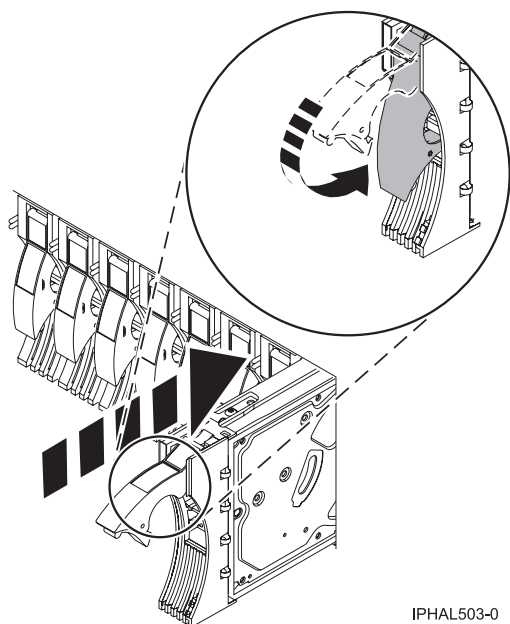

Figure 77. Installing a disk drive in a model or 7311-D20
10. Slide the disk drive all the way into the system or expansion unit and then lock it in place by pushing in the disk drive handle, as shown in Figure 77 on page 91.